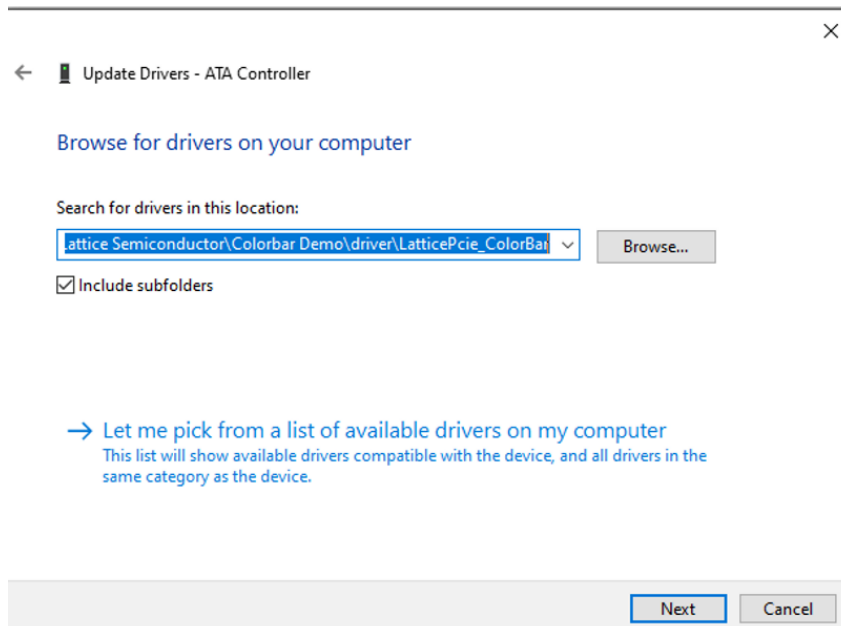

Figure 3.38. Browse the Driver for Device
6. Browse for the Colorbar Demo device driver as shown in Figure 3.38.